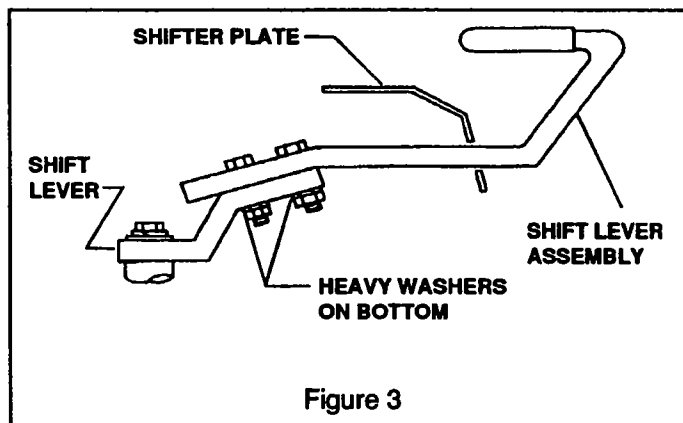

Figure 3
6. Attach shift lever assembly as shown (see fig. 3) on top of the short lever that is bolted to the transmission using two 5/16-18 x 1" bolts, flat washers, lock washers and hex nuts. The heavy flat washers should be under the shift lever. The two bars should be parallel after bolts are tightened.